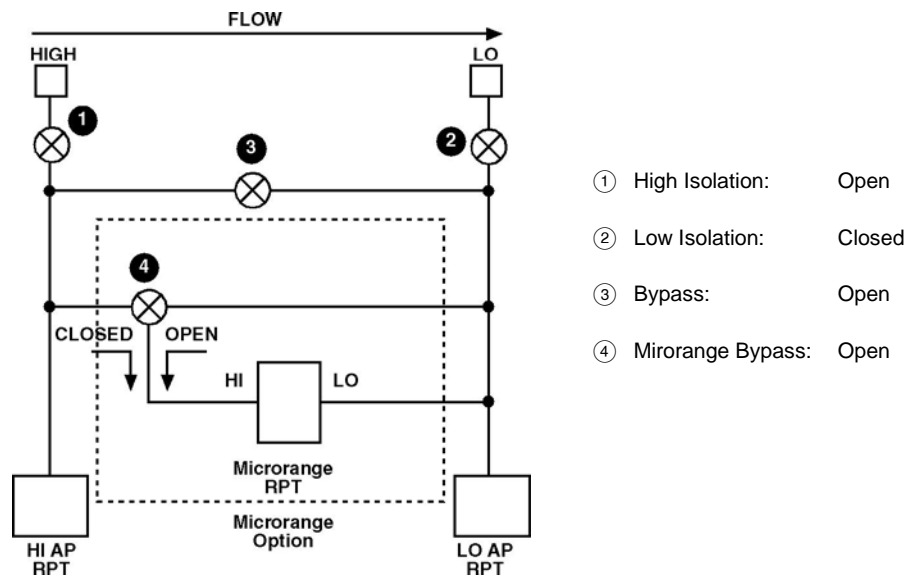

Figure 15. molbox RFM
- ① Set the molbox RFM on a stable surface near the calibration standard at a height as close as possible to the calibration standard's reference height. Consider the connections that need to be made to the molbox RFM rear panel pressure quick connectors and access to the front panel display and keypad.
- ② Connect the calibration standard output to the molbox RFM rear panel UP (HI) port. In the run calibration mode (see Section 5.2.4.1), both absolute RPTs are connected to the UP (HI) port and isolated from the DOWN (LO) port (see **Figure 15**). Use one of the quick connector stems (Fluke P/N 3068652), equivalent to Swagelok SS-QM2-S-200) supplied with the molbox RFM accessories to make the connection. The fitting on the quick connector stem that must be mated to is a compression type for 1/8 in. tube.
If the selection was <1upstrm> or <2dnstrm>, molbox RFM's internal valves operate to connect both absolute RPTs to the upstream pressure port (see **Figure 15**).